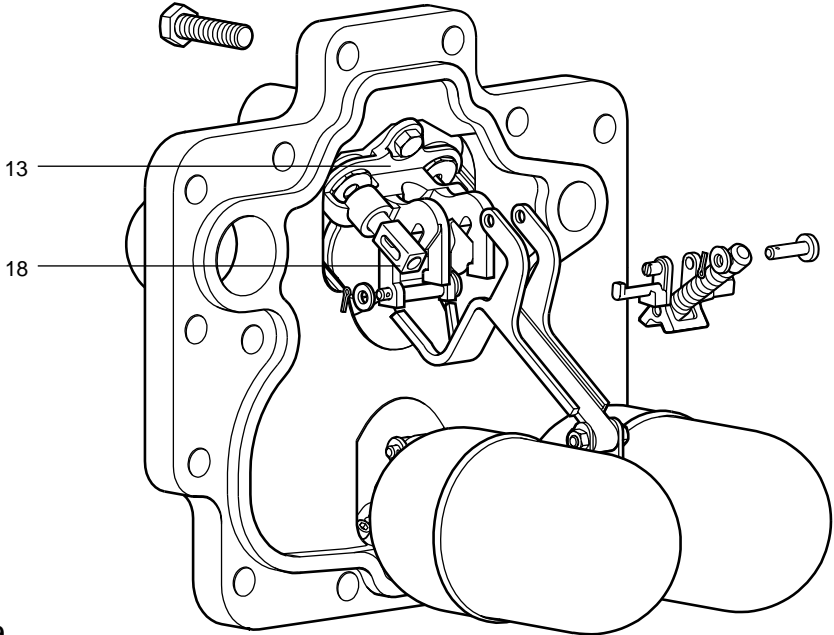

Fig. 19
**Note:** There is no need to remove the spring from the actuator arm, as both these items are supplied fully assembled in the spares kit (See Fig. 19).
10. **Fitting the new spring and actuator arm is the opposite to removal.** Remember to compress the small spring within the exhaust valve (item 18) before refitting to the tanged spigot of the new actuator arm.
11. Ensure the actuator is correctly aligned and located within the slots of the pump bracket (item 13).
13. Always use new split pins and washers when refitting the spring retaining shaft (Y) and pump pivot shaft (X).
16. Carefully reconnect the motive steam supply and the exhaust lines to the connections marked (IN) and (OUT). The APT14 is now ready to recommission.